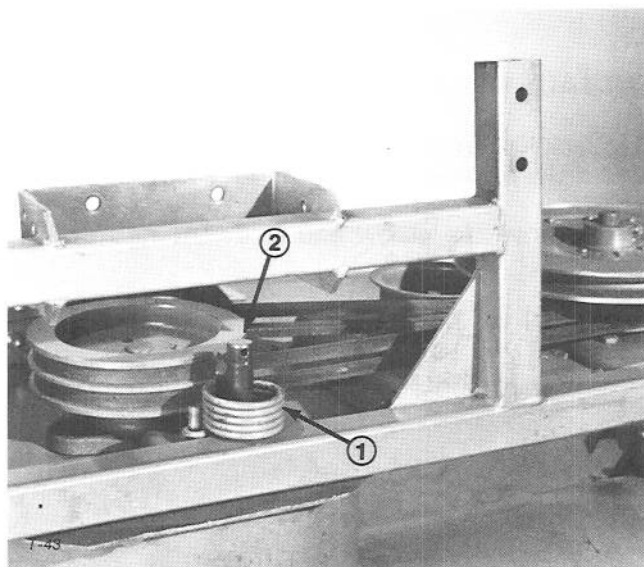

Figure 1
1. Tip snowthrower up on front of housing and install spring onto idler arm mount shaft (Fig. 1).